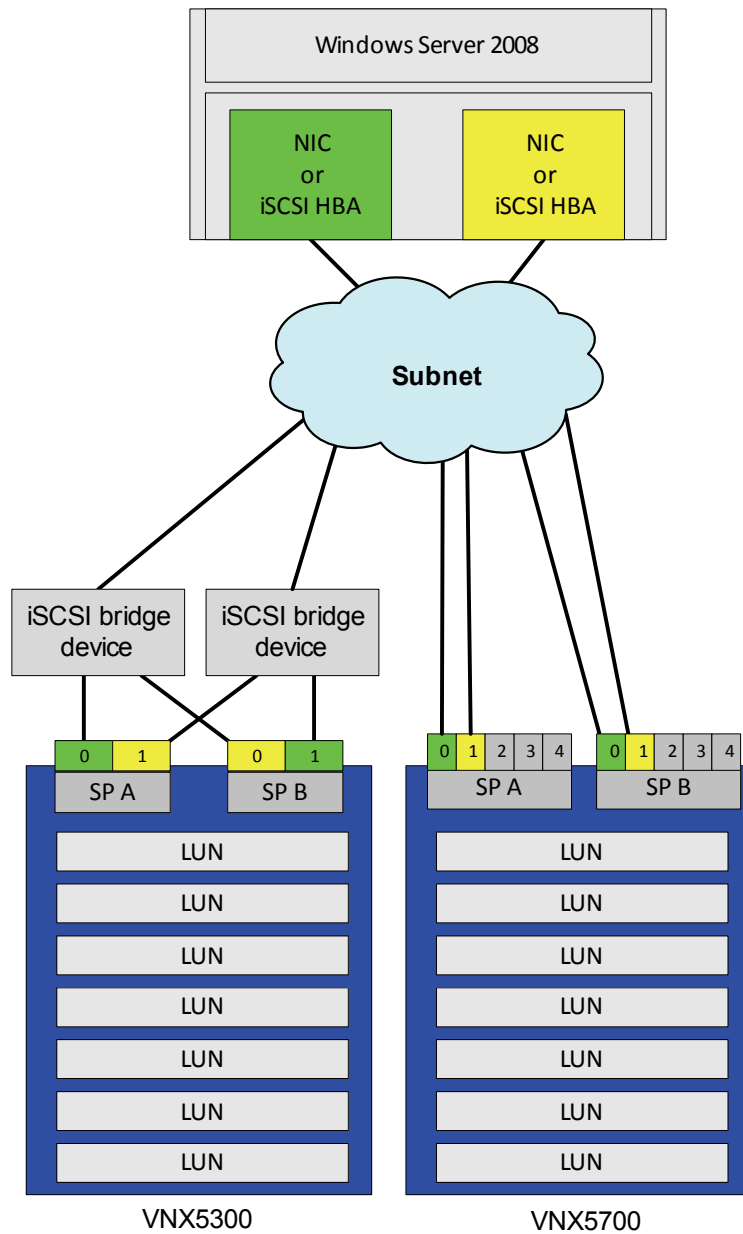

Figure 46 Server connected to both an iSCSI and Fibre Channel storage system over a network
- Connects to the Fibre Channel storage systems using supported iSCSI bridge devices as shown in Figure 46 on page 106.